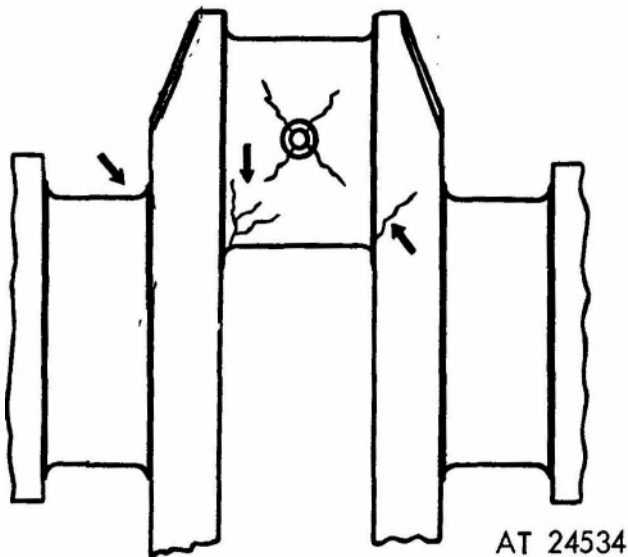

Figure 5. Crankshaft fatigue cracks.
b. Torsional fatigue failures result from torsional vibration which takes place at high frequency. A combination of abnormal speed and load conditions may cause the twisting forces to set up a vibration, referred to as torsional vibration, which imposes high stresses at the locations shown in figure 5. Torsional stresses may produce a fracture in either the crankpin or the crank cheek. Crankpin failures are usually at the fillet at 45° to the axis of the shaft. The introduction of improper or additional pulleys or couplings, are usual causes of this type of failure. Also, overspeeding of the engine, or resetting the governor at a different speed than intended for the engine application may be contributory factors.
holes as shown in figure 5. Cracks of this nature should result in replacement of the crankshaft.